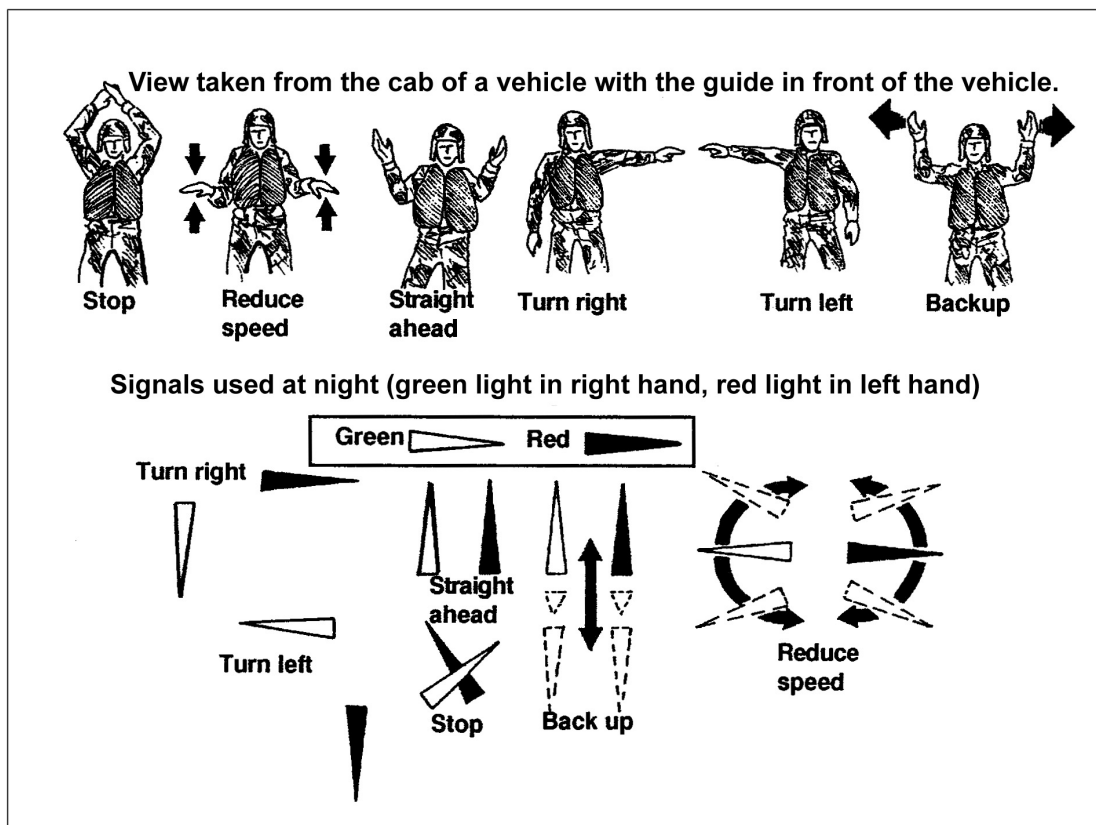

Figure 052-198-3082-1
- d. Ensure that the operators of the vehicles to be loaded understand the hand signals that will be used to control the loading of the raft (Figure 052-198-3082-1).